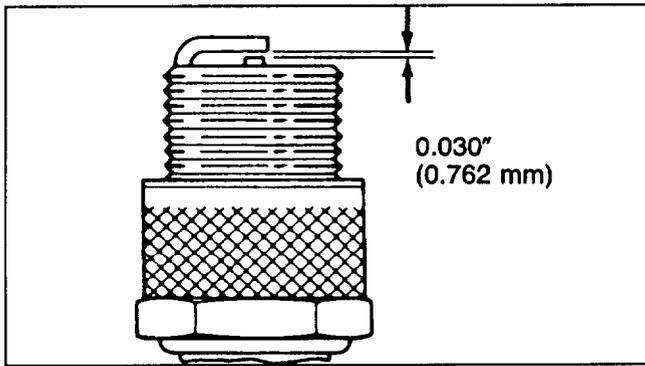

Figure 20
4. Set air gap between center and side electrodes at 0.030 of an inch (0.762 mm) (Fig. 20). Install correctly gapped spark plug w/gasket seal, and tighten plug to 15 ft-lb (20.4 N m). If torque wrench is not used, tighten plug firmly.